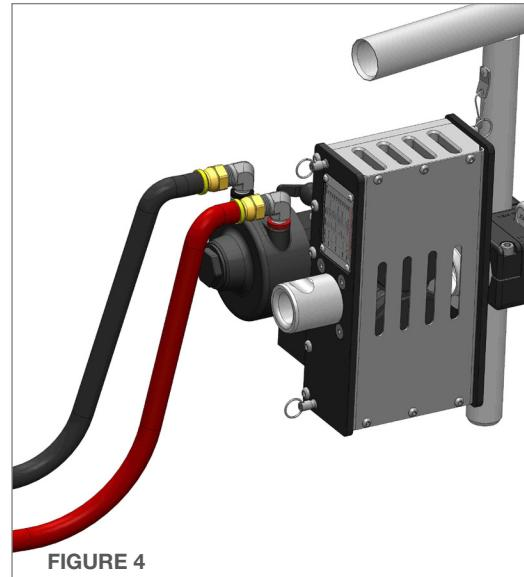

FIGURE 4
4. Push the back cover back into the closed position and secure the two Quick Release Pins on the top of the ABX-PRO AUTOBOX® PRODRIVE TRACTOR. (**Figure 4**)
4. Pull the Dust Caps off the Pneumatic Air Fittings. Connect the Pneumatic Supply Lines from the CB-ABX-PRO Control Box to the ABX-PRO-100 AUTOBOX® PRODRIVE. Pay close attention to the color coded tabs on the air fittings of the Air Motor and the Control Box. Connect the red hose to the red banded air fittings and the black hose to the black banded air fittings. (**Figure 4 & 5**)